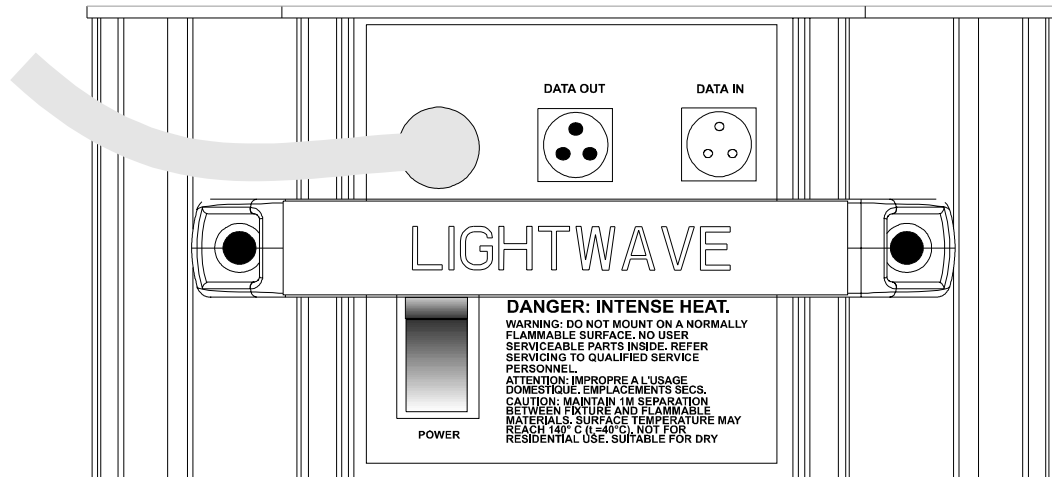

Figure 1.10. Data In and Data Out Connectors
1. Connect the data cable from the controller to the Data In connector on the side of the fixture. Refer to Figure 1.10.
4. Connect AC mains (power) and turn on the breaker located next to the power cord on the side of each fixture. Refer to Figure 1.10.